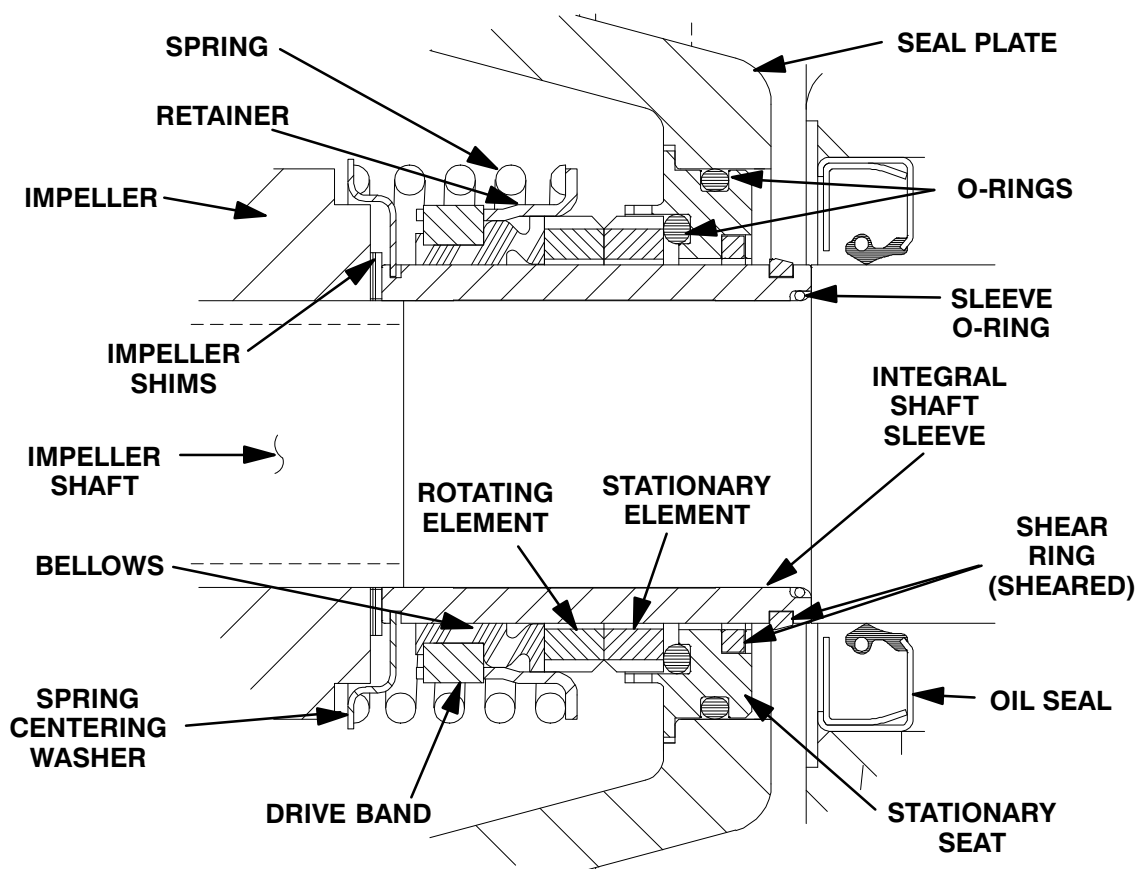

Figure 9. 46513-151 Cartridge Seal Assembly
To ease installation of the seal, lubricate the shaft sleeve O-ring (30) and the external stationary seat O-ring with a very **small** amount of light lubricating oil. See Figure 9 for seal part identification.